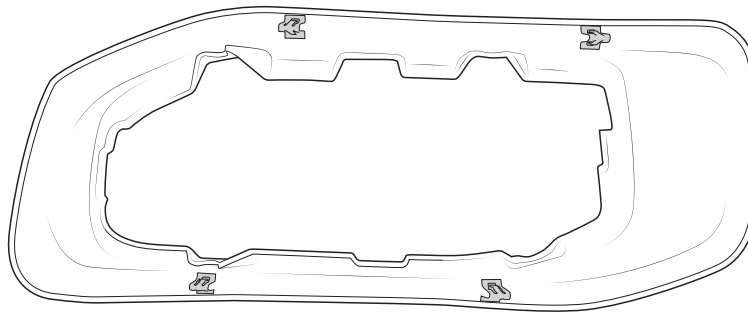

Figure 30
- A. Install the supplied metal retention clips onto the four plastic tabs of each AEV lamp bezel. Make sure that the clip sits flush onto the backside of the lamp bezel (fig. 30).